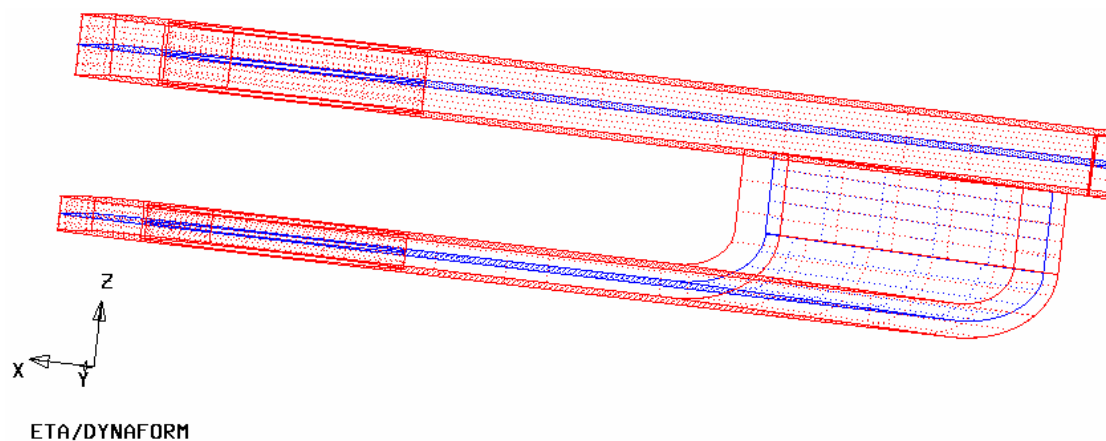
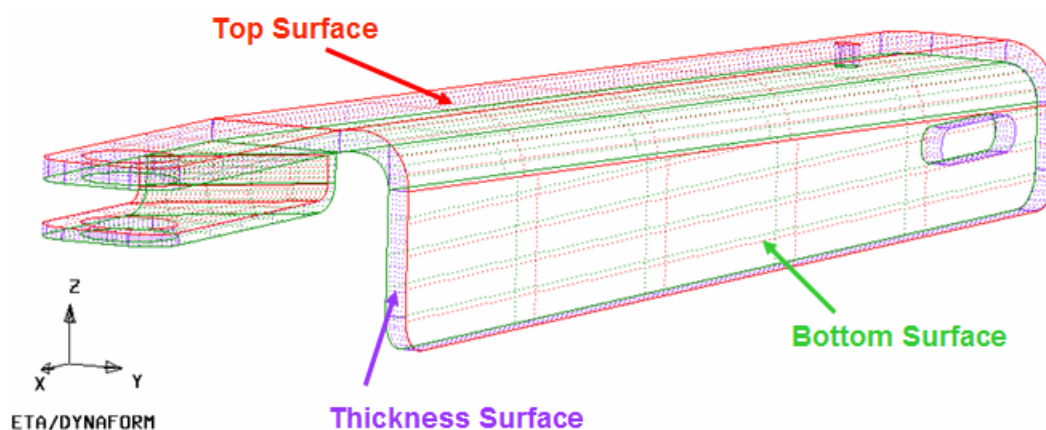

Figure 5.2.15 Create mid surface by offset
Figure 5.2.18 Group Bottom Surfaces
After selecting the offset direction, the new offset surface will be created. Please see the Figure 5.2.15.
5. Click on DONE button to group the bottom surfaces of the part (Figure 5.2.18). At this point, Figure 5.2.15 is displayed.